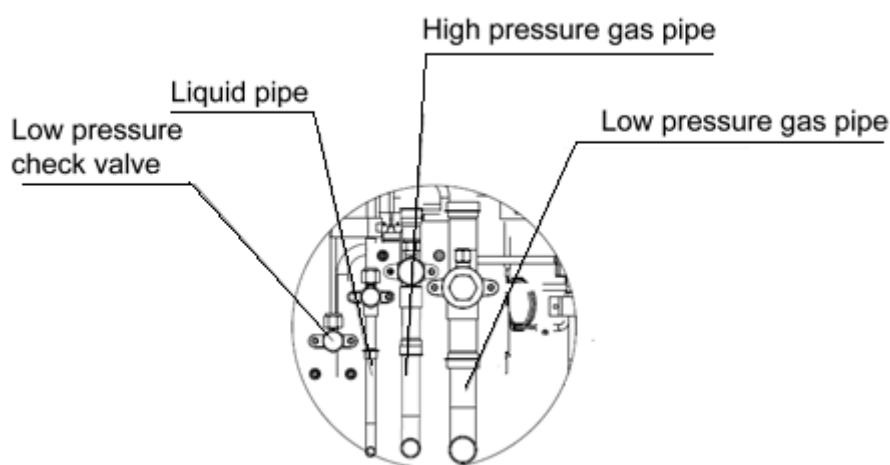

Fig.17
(1) Confirm outdoor liquid and gas valves are closed. Air purging from the nozzle located on liquid and gas valves by vacuum pump. See Fig.17.